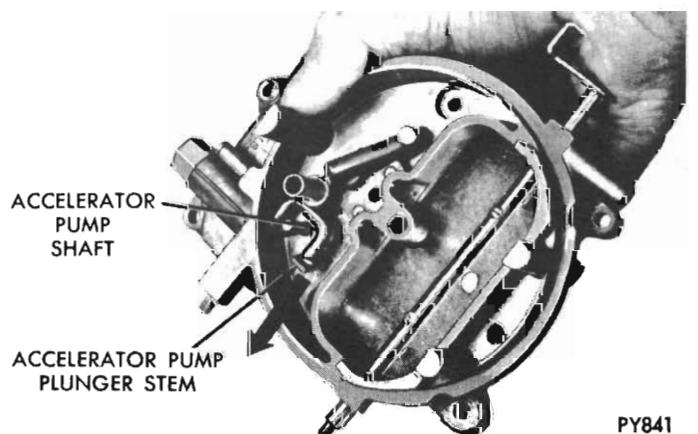

Fig. 7 - Removing or installing accelerator pump plunger
(8) Disengage accelerator pump plunger from pump shaft by pushing up on bottom of plunger, then tilting slightly toward centre, then slide off pump shaft. Slide plunger stem out of air horn and remove compression spring (Fig. 7).